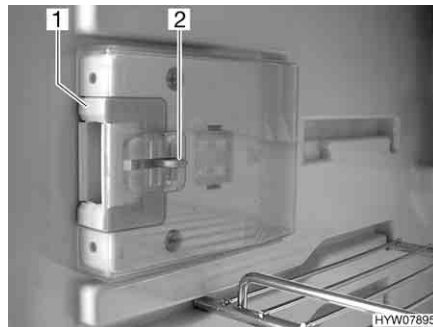
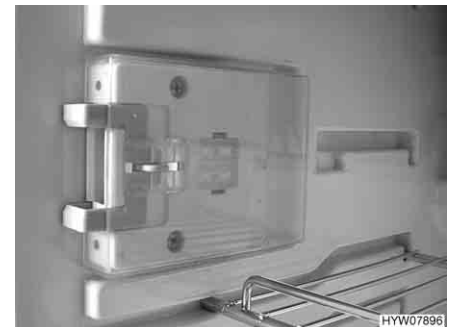

Fig. 201 Locking device in normal position
Fig. 202 Locking device in ventilation position
- Press down the unlocking device (Fig. 201,2).
- Push locking device (Fig. 201,1) forwards (Fig. 202).